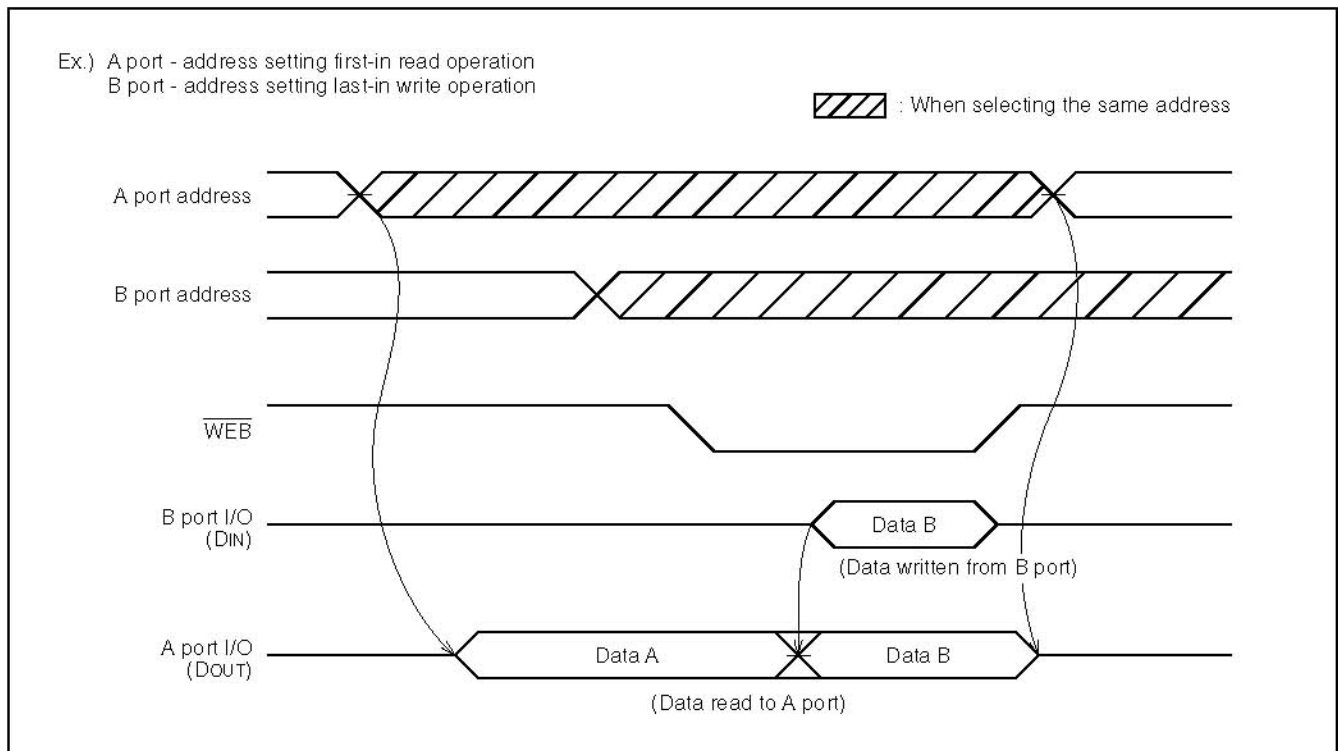

Fig 2 Example of Read Data Transition at Selection of Same Address
(4). There is no concern about uncertainty of read/write data at an active address. If one port operates in the write mode and the other does in the read mode as given in (2) and (3), however, the same address may be selected. In this case, data of the port operating in the write mode is written. If the port in the read mode comes first, read data of the first-in port becomes uncertain until write data of the last-in port is determined (If the same address is selected, data of the port operating in the write mode is written into memory. Therefore, data of the port in the read mode may change from previously written data to newly written ones during the same cycle) (See Fig 2).